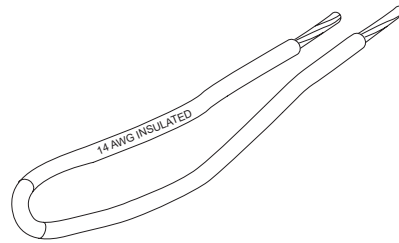
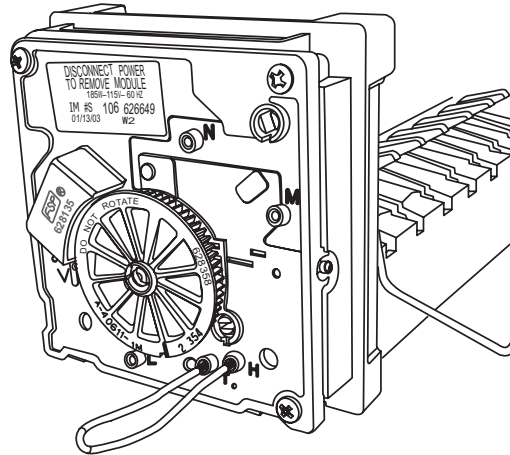
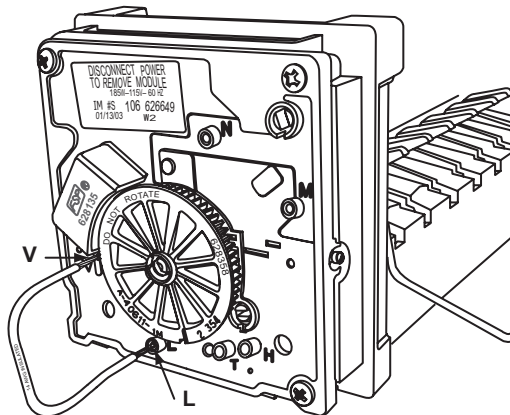

Figure 52. Jumper wire
Figure 53. Cycle testing ice maker
Figure 54. Checking water valve operation
5. Jump terminals T and H. Use a 14 AWG jumper wire with 1/2 inch insulation stripped from ends. Jumper wire is shown in Figure 52. The jumping of T and H is shown in Figure 53.
2. Jump test point V and L. See Figure 54. Use a 14 AWG jumper wire with 1/2 inch insulation stripped from each end (as shown in Figure 52). The solenoid should click and buzz when energized. If the solenoid does not click and buzz, replace the water valve (see page 51).